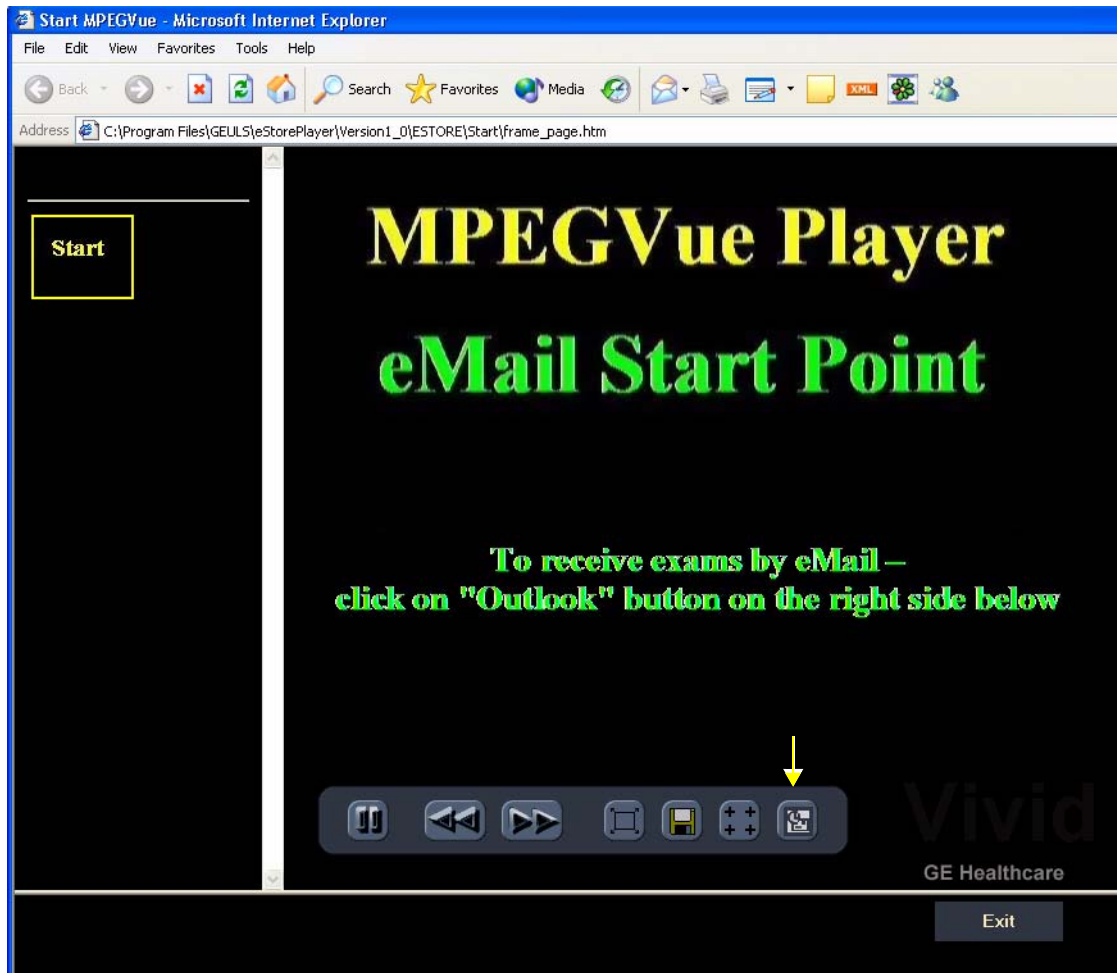

Figure 3-130 Start MPEGVue Screen
When the installation of the MPEGVuePlayer software is complete, the MPEGVue Player Screen is displayed as shown in Figure 3-130 on page 3-138 .
The Start MPEGVue screen is displayed, as shown in Figure 3-130 below.
- 2) Click the Outlook **E-mail** button (shown in Figure 3-130).